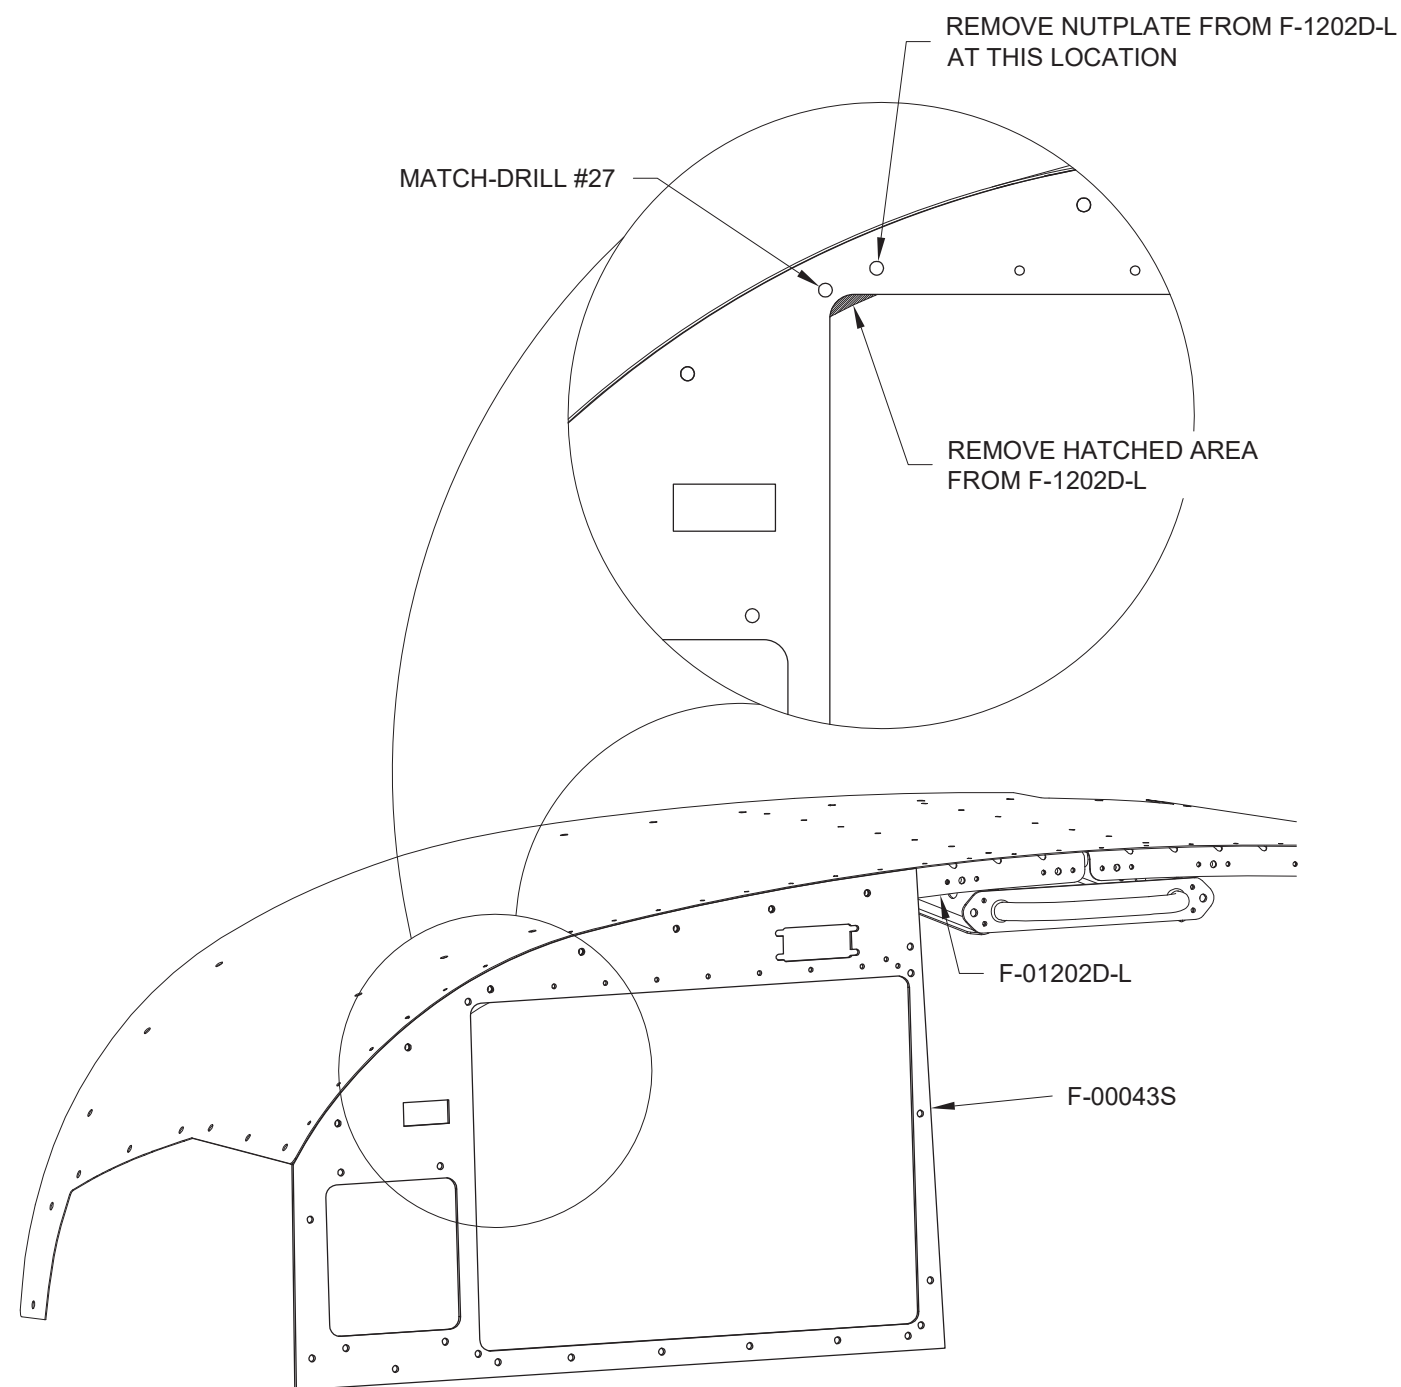

FIGURE 1: PREPARING THE F-1202D-L
Step 5: Remove the nutplate from the F-1202D-L as shown in the detail view in Figure 1.